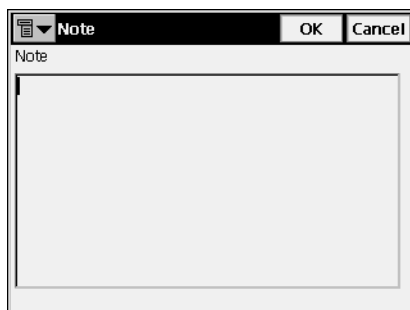

Figure 5-35. Note
- *Note*: opens the *Note* screen (Figure 5-35). The *Note* screen is used for additional information. The text of the note should be typed in the *Note* field. Press **OK** to store the Note.